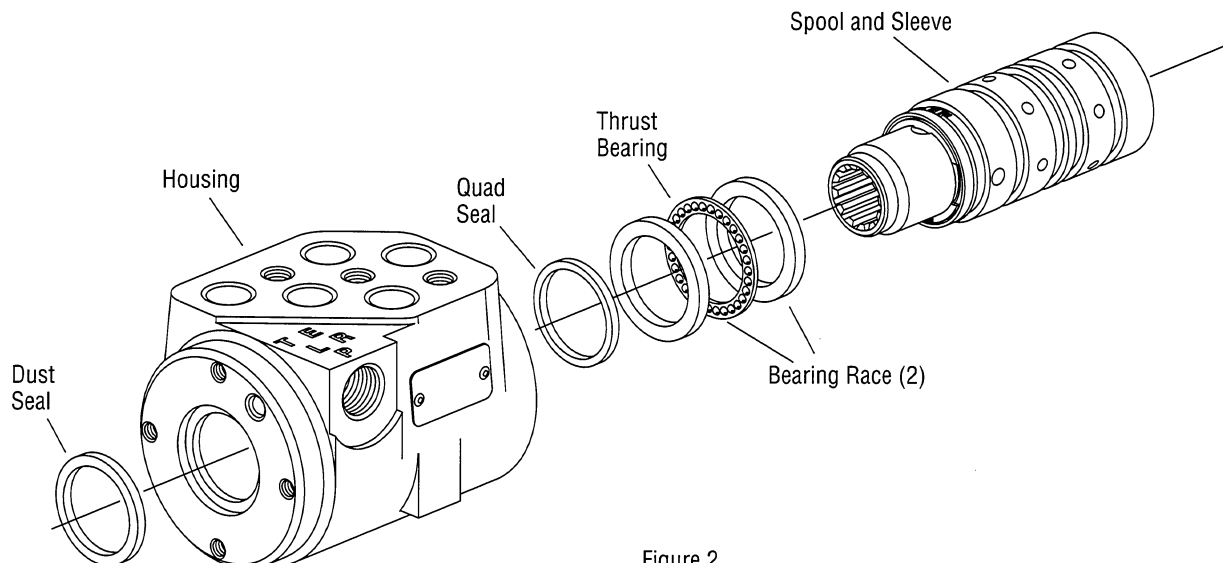

Figure 2
**3** Slide the spool and sleeve from the housing, see figure 2.
- 17 Put the thrust bearing and races into the housing. The thrust bearing goes between the two races, see figure 2.